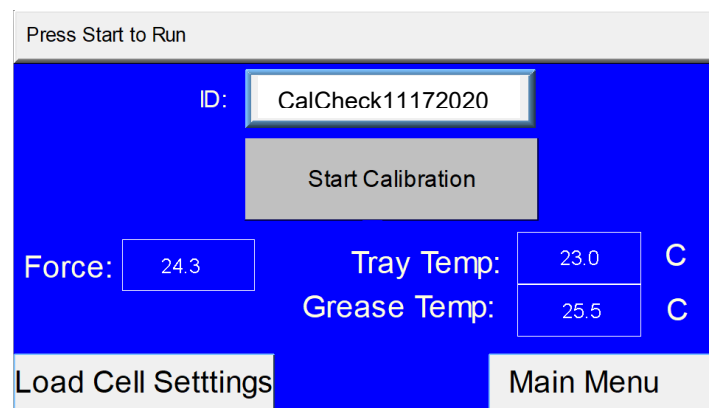

Figure 14 Calibration Screen
5. Return to the Calibration screen (shown below in Figure 14) by pressing the "Back" button or the "Calibration" button from the Navigation Menu. To enter or edit the sample ID, select the sample name field using the touch screen. Use the alpha-numeric keypad to enter the sample name and press "Enter" to confirm. This name should uniquely identify the run being performed. For example, cal or calck followed by the date and a sequence identifier if multiple runs are performed on the same day. (e.g. calck0714a)